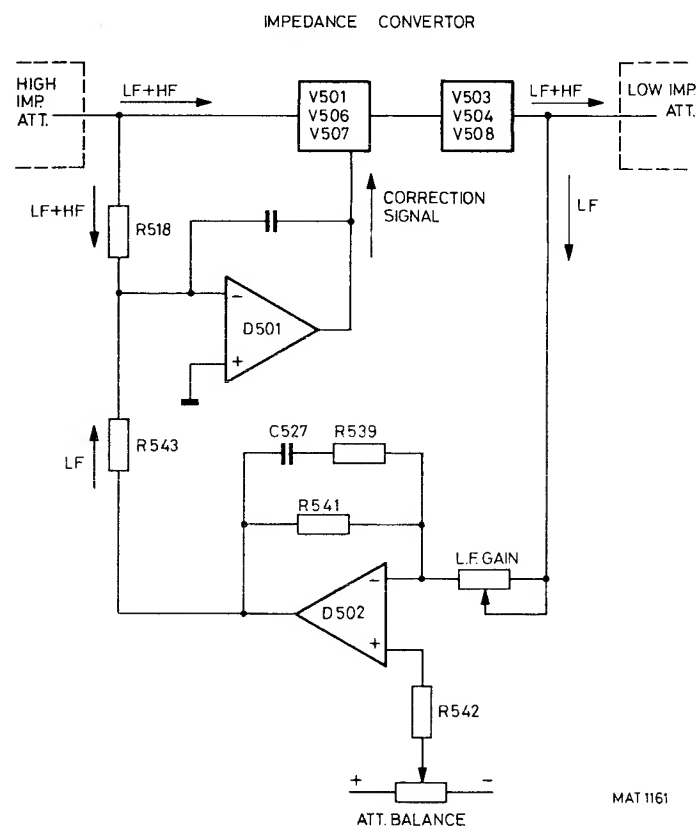

Fig. 2.2. Impedance converter
2.2.2. Attenuator and Impedance Converter (see Fig. 2.2. and 8.3)
Impedance converter (see Fig. 2.2. and 8.3.)